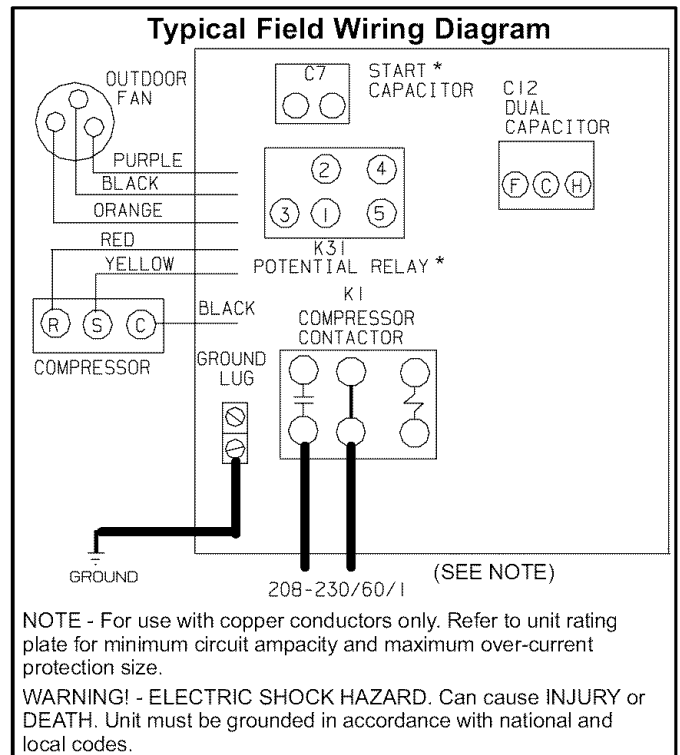

Figure 2
- 24V, Class II circuit connections are made in the low voltage junction box. Refer to figure 2 for field wiring diagram.